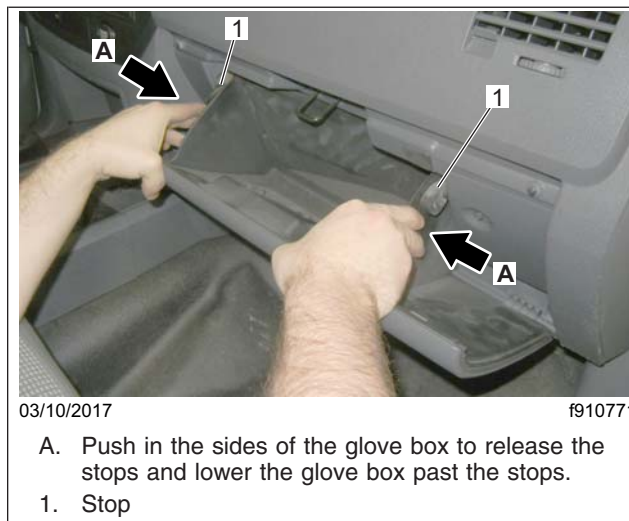

Fig. 2, Removing the Glove Box
- 5.2 Push in the sides of the glove box to release the stops and lower the glove box past the stops. See Fig. 2.
- 23.2 Push in the sides of the glove box and raise it past the stops. See Fig. 2.